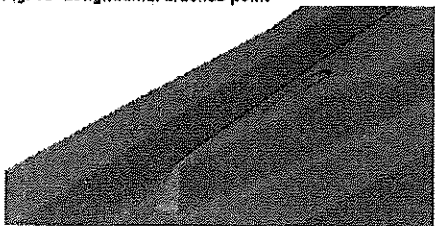

Fig. 89- Grinding or arc air point
1. Grind or Arc Air, Fig. 89.
1. Grind, Fig. 89.